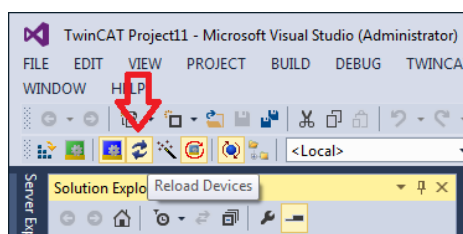

Figure 18: Reload Devices to refresh/restart communication in Free Run mode
- b. If any configuration parameter is changed, and whenever the communication needs to be restarted/refreshed, command “Reload Devices” shall be given in Free Run mode (Figure 18).